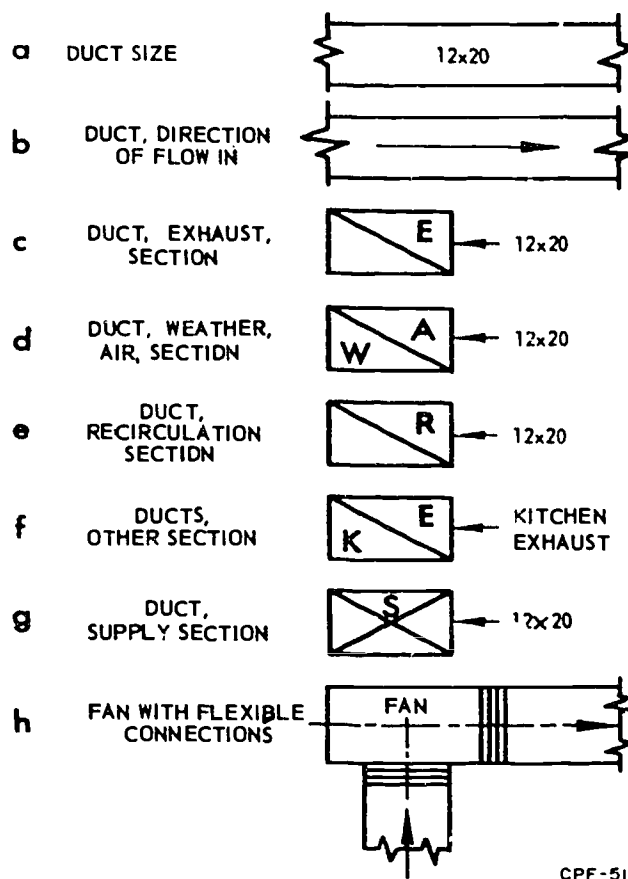

Figure 1-12. Symbols used with rectangular ducts.
**Symbols for Rectangular Ducts.** Duct symbols are used on working drawings for such purposes as distinguishing one duct from another; determining if a duct is round or rectangular; or determining if the duct is a supply, return, or exhaust line. Also, the direction of airflow, inlets and outlets, flexible connections, and turn vanes can be identified with symbols. In figure 1-12, you can see some of the symbols used for rectangular ducts.
**Duct size.** The height and width of a duct are determined by dimensions written on a section of the duct. Remember that the first number will indicate the dimension of the visible side of the duct, regardless of whether it is a plan or elevation view. For example, if drawing a in figure 1-12 is an elevation view, the duct is 12-inches high and 20-inches wide.
**Duct direction of flow.** This symbol, (fig. 1-12,b) indicates the direction of flow through the duct. The symbol is not always used, since many duct systems are simple and the inlet and outlet openings will have direction of flow indicated with letters or arrows.
**Duct, exhaust section.** This symbol, shown in c of (fig. 1-12,c) is used to identify an exhaust opening in a duct, with the direction of flow indicated by a single diagonal and the letter E (exhaust). The arrow in this symbol does not indicate direction of flow but points out the size of the opening, which, in this case, is 12" x 20". Notice also in figure 1-12 that several other duct symbols are similar to this one except for letters and diagonal lines. The single diagonal line always indicates that flow is into the duct.
**Duct weather-air section.** This symbol (fig. 1-12,d) indicates a duct opening where inside air A and outside air W are flowing into the duct. These symbols may be found on a drawing of a duct which is the return air system to a furnace and which mixes outside air and inside air.
**Duct, recirculation system.** This symbol (fig. 1-12,e) is similar to the weather-air symbol except that only return air (designated by the letter "R") is involved. This symbol will be found on most drawings that have a return air duct system to the furnace.
**Duct, other section.** This symbol (fig. 1-12,f) has a single diagonal to represent direction of flow, and a letter or letters to indicate function. In this case, we use the E to represent exhaust, and K to represent kitchen.
**Duct, supply section.** This symbol (fig. 1-12,g) has two diagonals that indicate the direction of flow is from the duct. The letter S, which may or may not be used, simply means supply. The arrow does not indicate direction of flow
**Fan with flexible connections.** This symbol (fig. 1-12,h) is used to indicate the location of a fan or blower in a duct system. The arrows indicate the direction of airflow. Not enough of the system is shown in the illustration to indicate whether the fan is being used for exhaust purposes or for supply purposes; however, when this symbol is used on a working drawing, you can determine its purpose by its location in the duct system.
The connector symbol (four parallel lines shown in fig. 1-12,h) also is important to you, as a sheet metal specialist, because you are responsible for installation and maintenance of connectors. This symbol represents a flexible connector between the furnace outlet and the supply duct. The same four-line symbol may be used to represent a flexible connector on the return air or intake side of the furnace.
ducts to a furnace. This symbol represents the type of louver used at the intake shown in part d of figure 1-12.